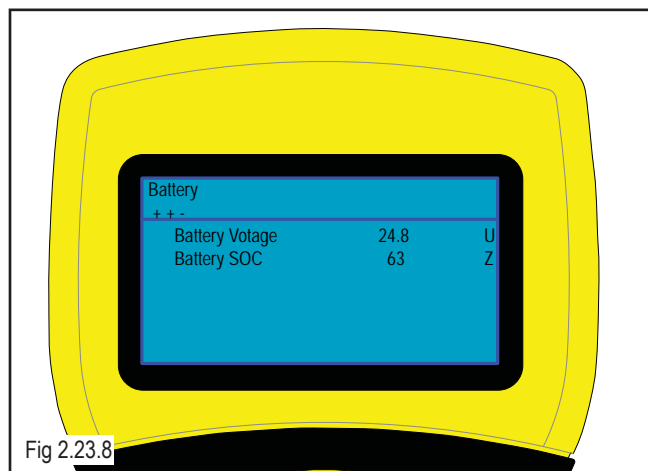

Fig 2.23.8
5. If using the HHP, select Monitor then System. Under System, select Battery. (fig 2.23.8)
6. If using the Quickie iQ, select Monitor Parameter followed by Motor Controller, then Battery (fig 2.23.8).